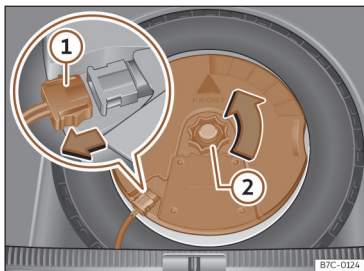

Fig. 228 In the luggage compartment: remove the subwoofer.
- Disconnect the *subwoofer*»» **Fig. 228** ① speaker cable.
- Turn the securing wheel in an anti-clockwise direction»» **Fig. 228** ②.